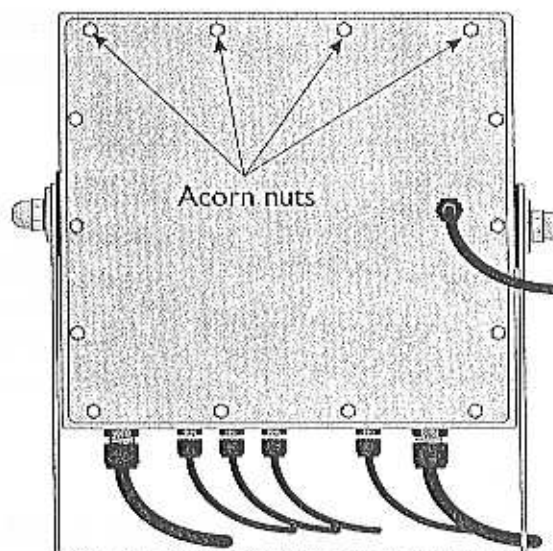

Figure 10
2. Remove the back of the WI-130 by removing the fourteen acorn nuts and pulling the back cover from the case. See Figure 10.